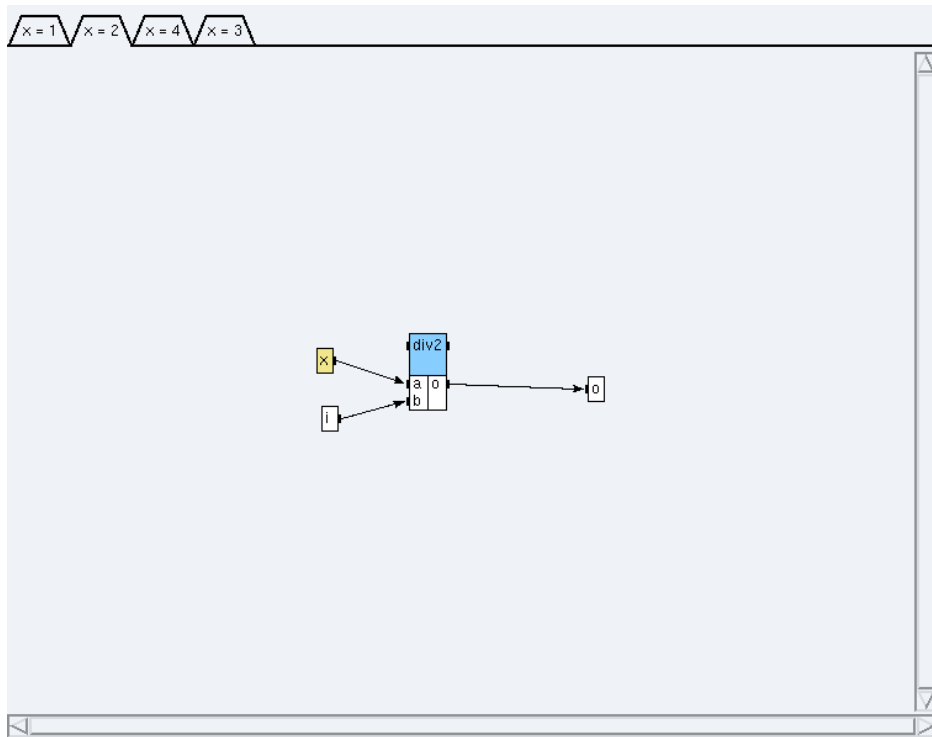

Figure 5.3: Condition $x=2$
- * click on the condition `x=2` (cf. figure 5.3) and create a reference `div2<1>` to the definition `int/Arit_div`,